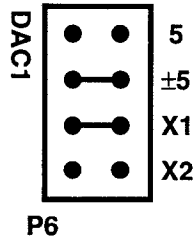

Fig. 1-7 — DAC 1 Output Voltage Range Jumper, P6
This header connector, shown in Figure 1-7, sets the output voltage range for DAC 1 at 0 to +5, ± 5 , 0 to +10, or ± 10 volts. Two jumpers must be installed, one to select the range and one to select the multiplier. The top two jumpers select the range, bipolar (± 5) or unipolar (5). The bottom two jumpers select the multiplier, X2 or X1. When a jumper is on the X2 multiplier pins, the range values become ± 10 and 10. The table below shows the four possible combinations of jumper settings, and the diagram shows the two bipolar settings. This header does not have to be set the same as P7.